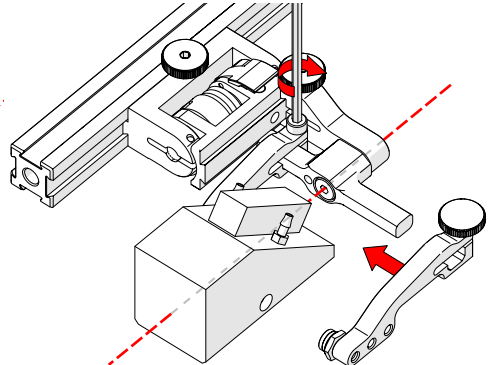

Fig. 201 - Place wedge
7. Position the wedge on the inner probe holder arm (Fig. 201).